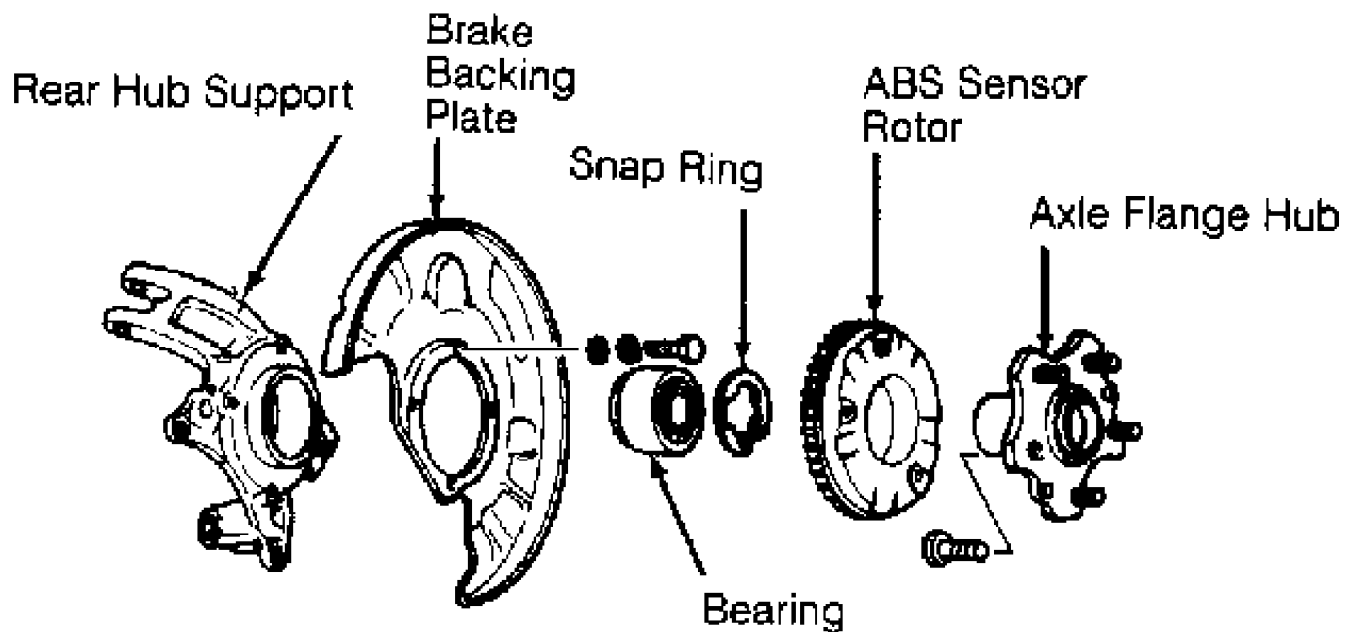

Fig. 8: Exploded View of Rear Hub Assembly (RX7)
2) Using dial indicator on axle hub flange, measure axle bearing play by pulling and pushing on axle flange hub. Axle bearing play should be maximum of .004" (0.1 mm). Remove ABS speed sensor from rear of hub support. Using plastic or soft-faced hammer, tap axle from axle flange hub assembly. If axle is stuck in axle flange hub, use puller and press axle from hub to remove. Remove hub support from rear suspension assembly. Loosen brake dust shield. Using press, remove axle flange hub from hub support. See Fig. 8.